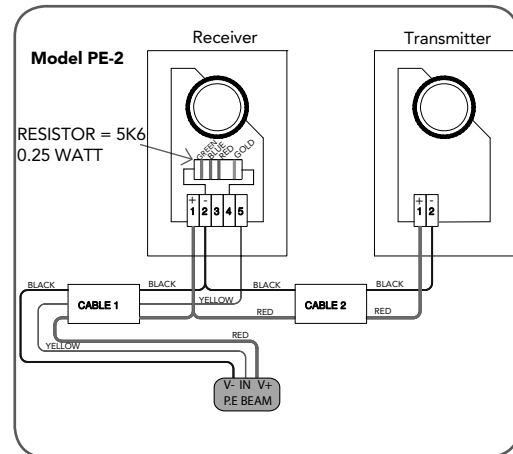

fig 67
- Connect the wires from the PE Beams wiring harness to terminal block (**Fig. 67**). The wiring diagram is for Model PE-2 (Order Code 90214).